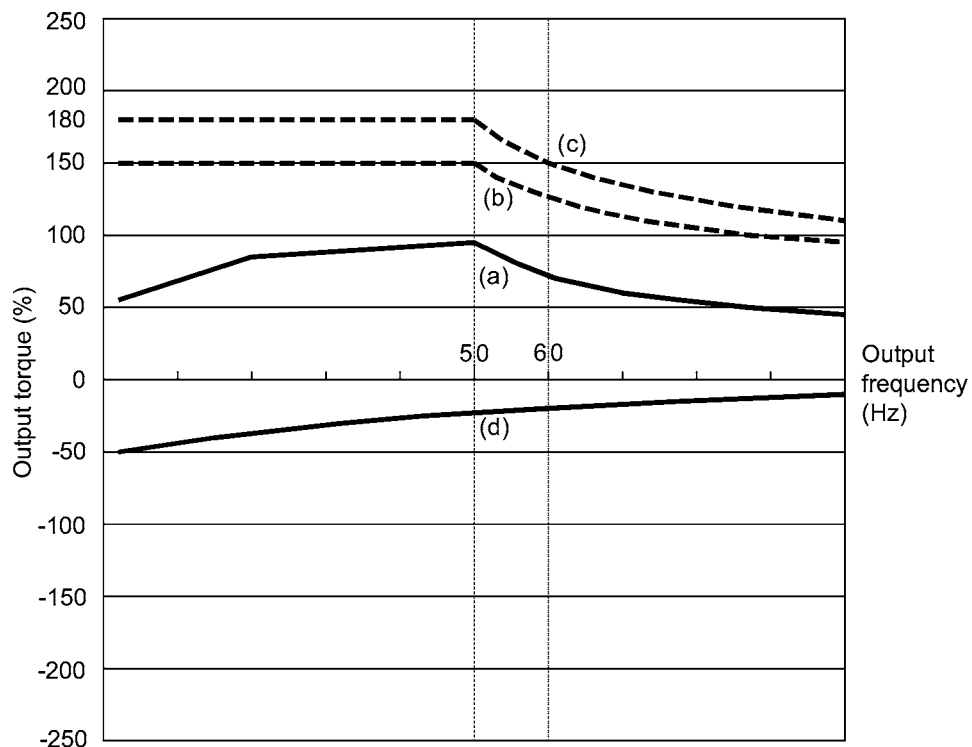

Figure 7.1 Output Torque Characteristics (Base frequency: 50 Hz)
Figures 7.1 and 7.2 graph the output torque characteristics of motors at the rated output frequency individually for 50 Hz and 60 Hz base. The horizontal and vertical axes show the output frequency and output torque (%), respectively. Curves (a) through (d) depend on the running conditions.
(1) Continuous allowable driving torque (Curve (a) in Figures 7.1 and 7.2)
(2) Maximum driving torque in a short time (Curves (b) and (c) in Figures 7.1 and 7.2)
(3) Starting torque (around the output frequency 0 Hz in Figures 7.1 and 7.2)
(4) Braking torque (Curve (d) in Figures 7.1 and 7.2)